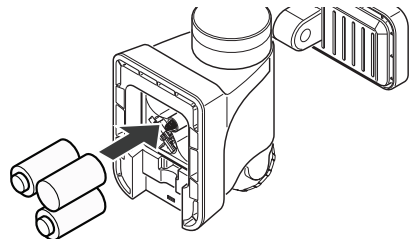

Figure 3
2. Install three, 1.5V “C” batteries (not included) into the battery compartment (see Figure 3). Make sure the polarity of the batteries is correct.